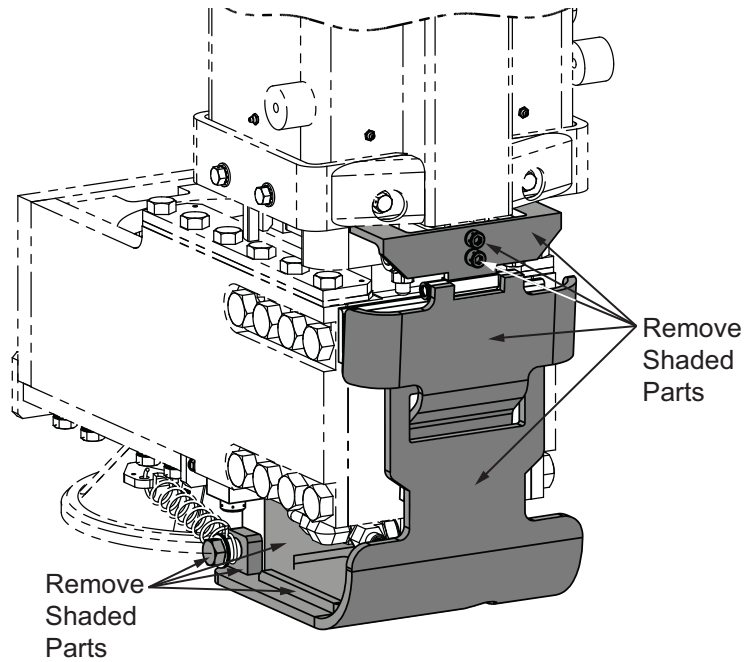

Figure 5: BUW Guard (Previous Version)
1. Remove the following original components from the BUW assembly (see Figure 5 on page 6):